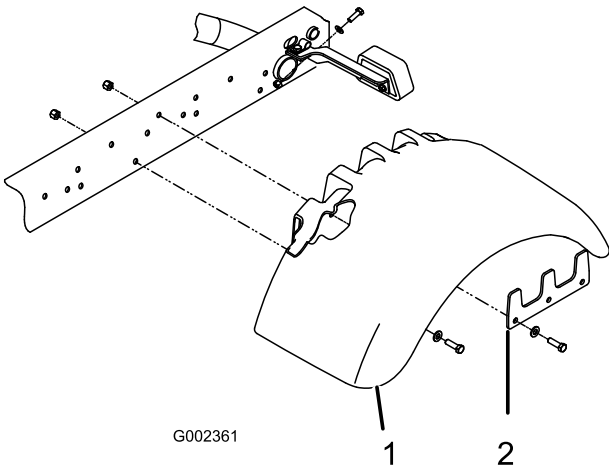

Figure 4
4. Loosely secure a fender to each side of frame with a support plate, (5) 3/8 x 1-1/4 in. bolts, and a locknut as shown in Figure 4.